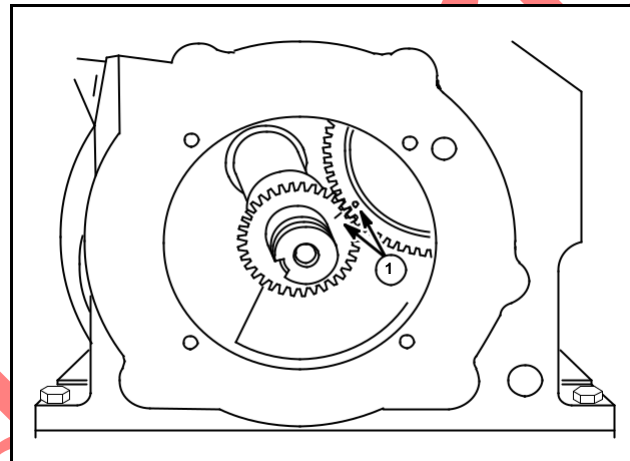

Fig. 16
5. Install crankshaft aligning timing marks (1), Fig. 16.